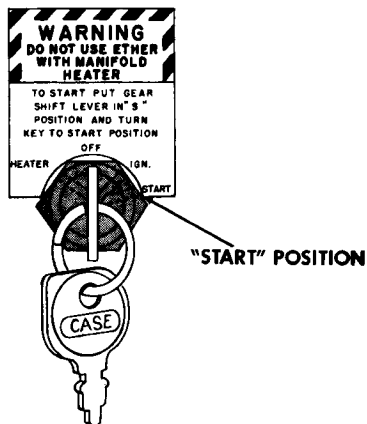

Figure 5
3. Turn starter key clockwise until engine starts - then release key, Figure 5.